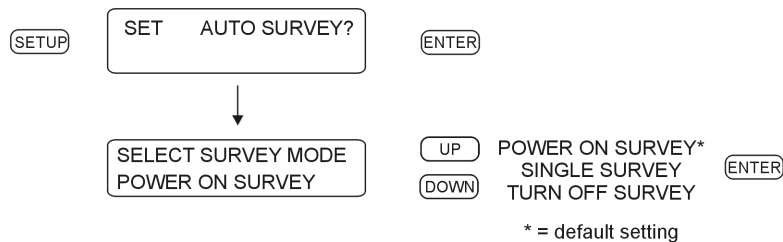

Figure 6.19: Auto Survey Configurations
The Model 1094B GPS receiver uses an Auto Survey Mode that determines its position relative to the available Global Positioning Satellites. It has three operating modes that are selectable from the front panel or through either of the serial ports. These modes are (1) Power On Survey, (2) Single Survey and (3) Turn Off Survey. See Figure 6.19.